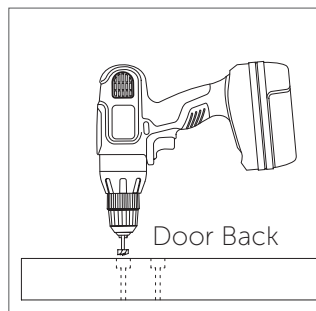

Figure 4
7. Turn the door over and using a 1-1/8" Forstner bit*, drill a 3/8" deep hole into each pilot hole (Figure 4).
5. Attach one end of the track to the wall with one standard stop, one lag screw, one spacer and one washer, using a socket wrench with 9/16" socket (Figure 4). Do not tighten.